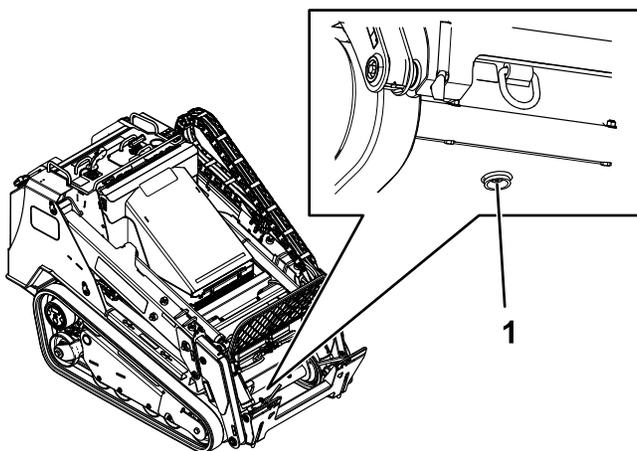

Figure 85
6. Place a large drain pan capable of holding 57 L (15 US gallons) under the drain plug on the front of the machine (Figure 85).
7. Remove the drain plug and allow the oil to drain into the pan (Figure 85).